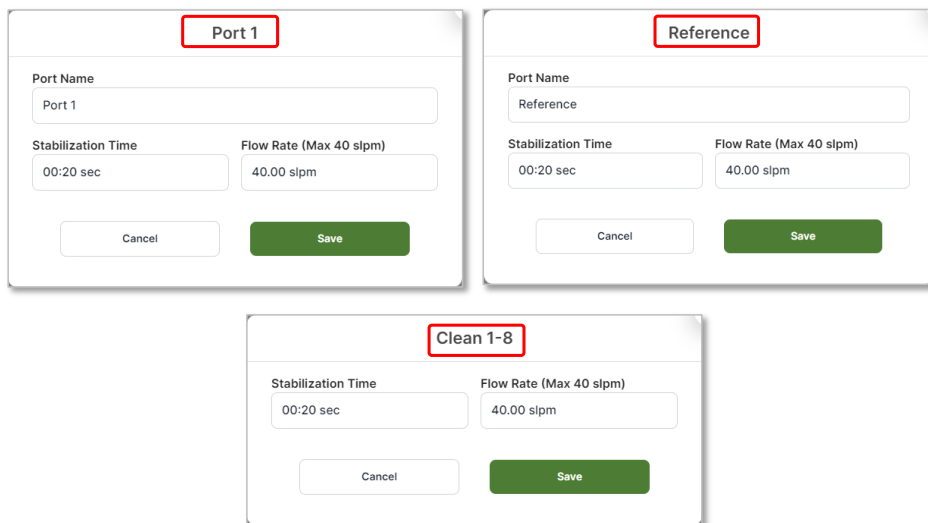

Figure 53: Port Edit Pop-up Dialogs
1. Click on the port you wish to change. A pop-up dialog (Figure 53) appears for making changes.